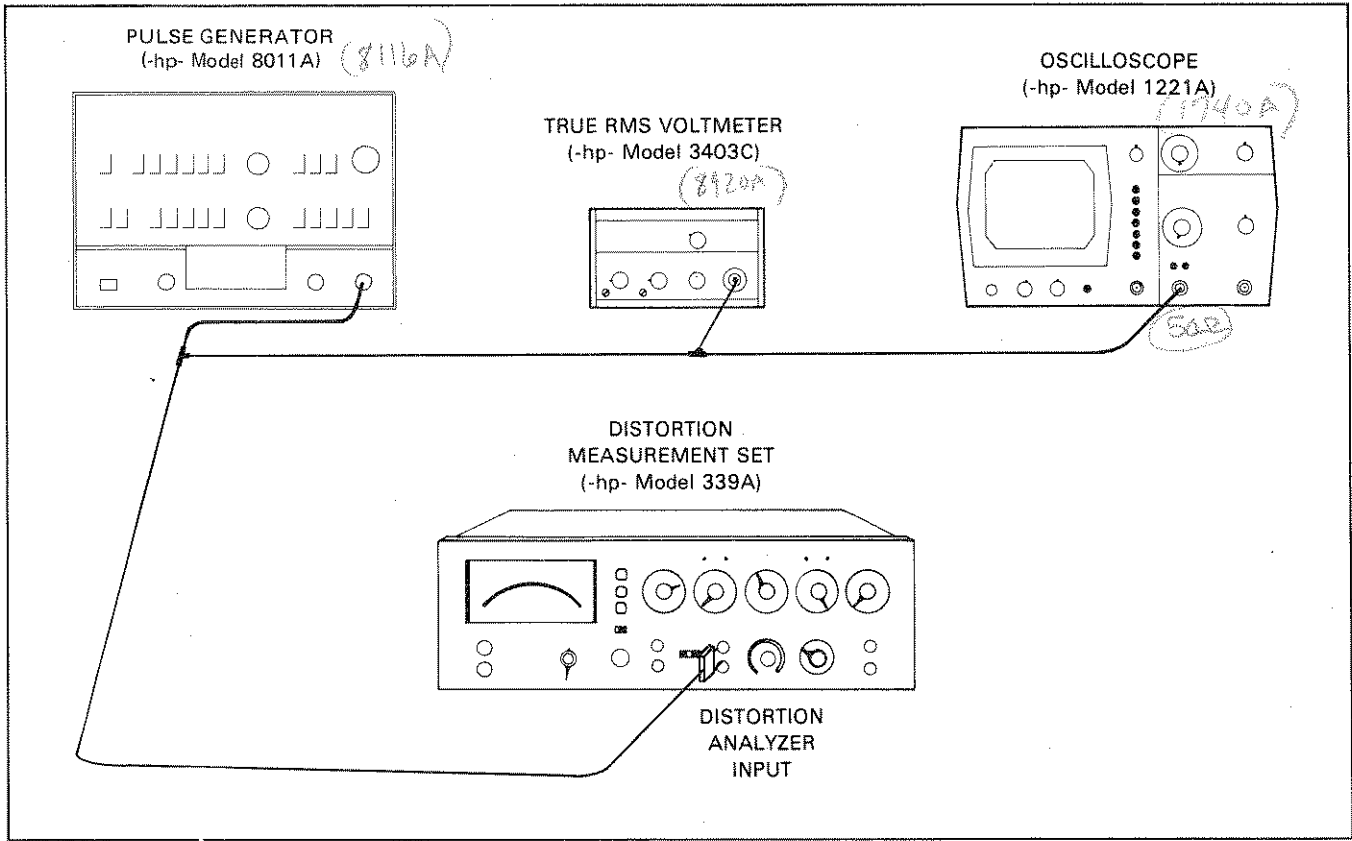

Figure 4-3. RMS Accuracy Test.
b. Connect the equipment as shown in Figure 4-3.